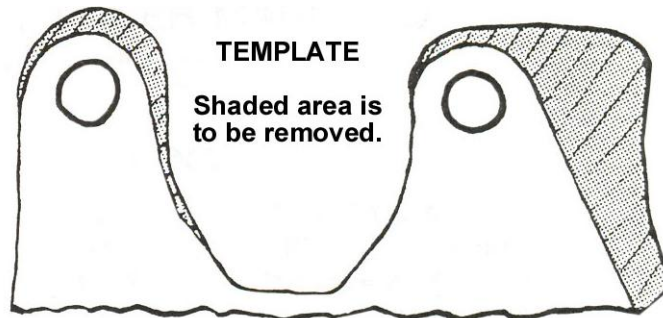

Figure 1
22. Carefully lay the intake manifold in place. For applications with air conditioning, it will be necessary to notch the A/C compressor rear bracket (if used) to clear the intake manifold. The shaded areas of the template indicate the amount of material to be removed. See Figure 1. **Do not** use washers on the one inch manifold bolts for the A/C brackets.